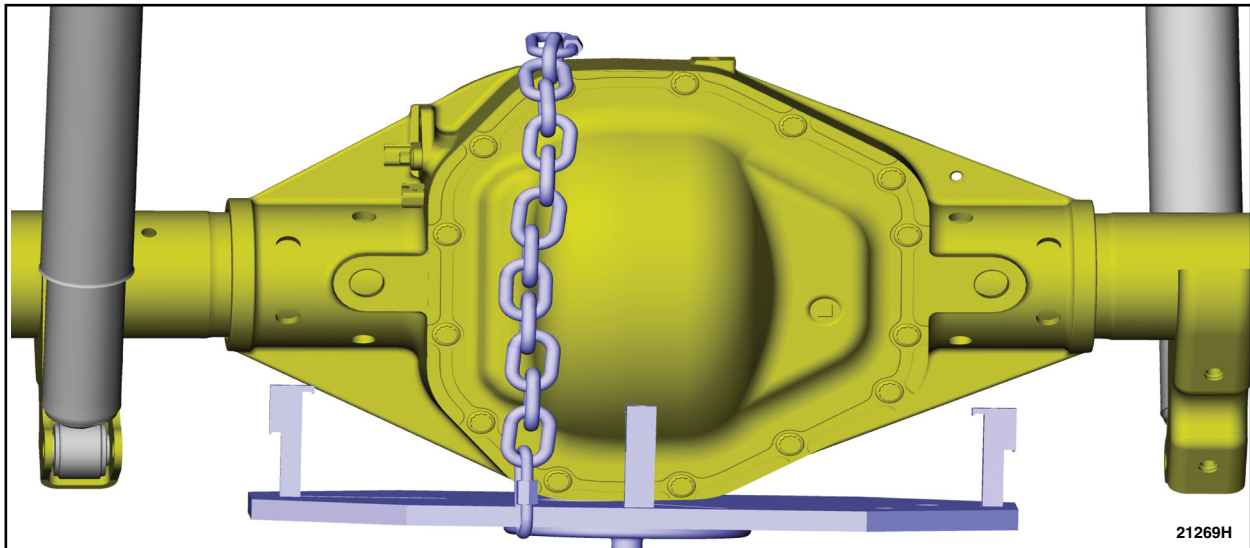

FIGURE 6
6. Using a suitable lifting device support the rear axle housing assembly. See Figure 6.